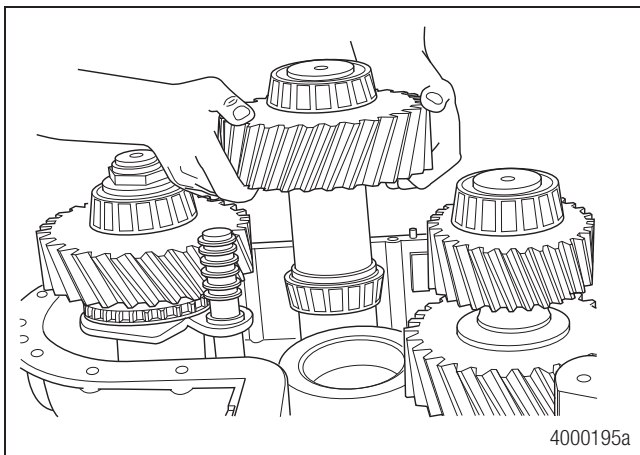

Figure 5.23
9. Remove the single-gear idler shaft on MTC-4213X, or rear output on MTC-4208X/XP/XL/XLEV/XLEC and MTC-4210X/XP/XL/XLEV/XLEC, and the double-gear idler shaft from the case. Figure 5.23.